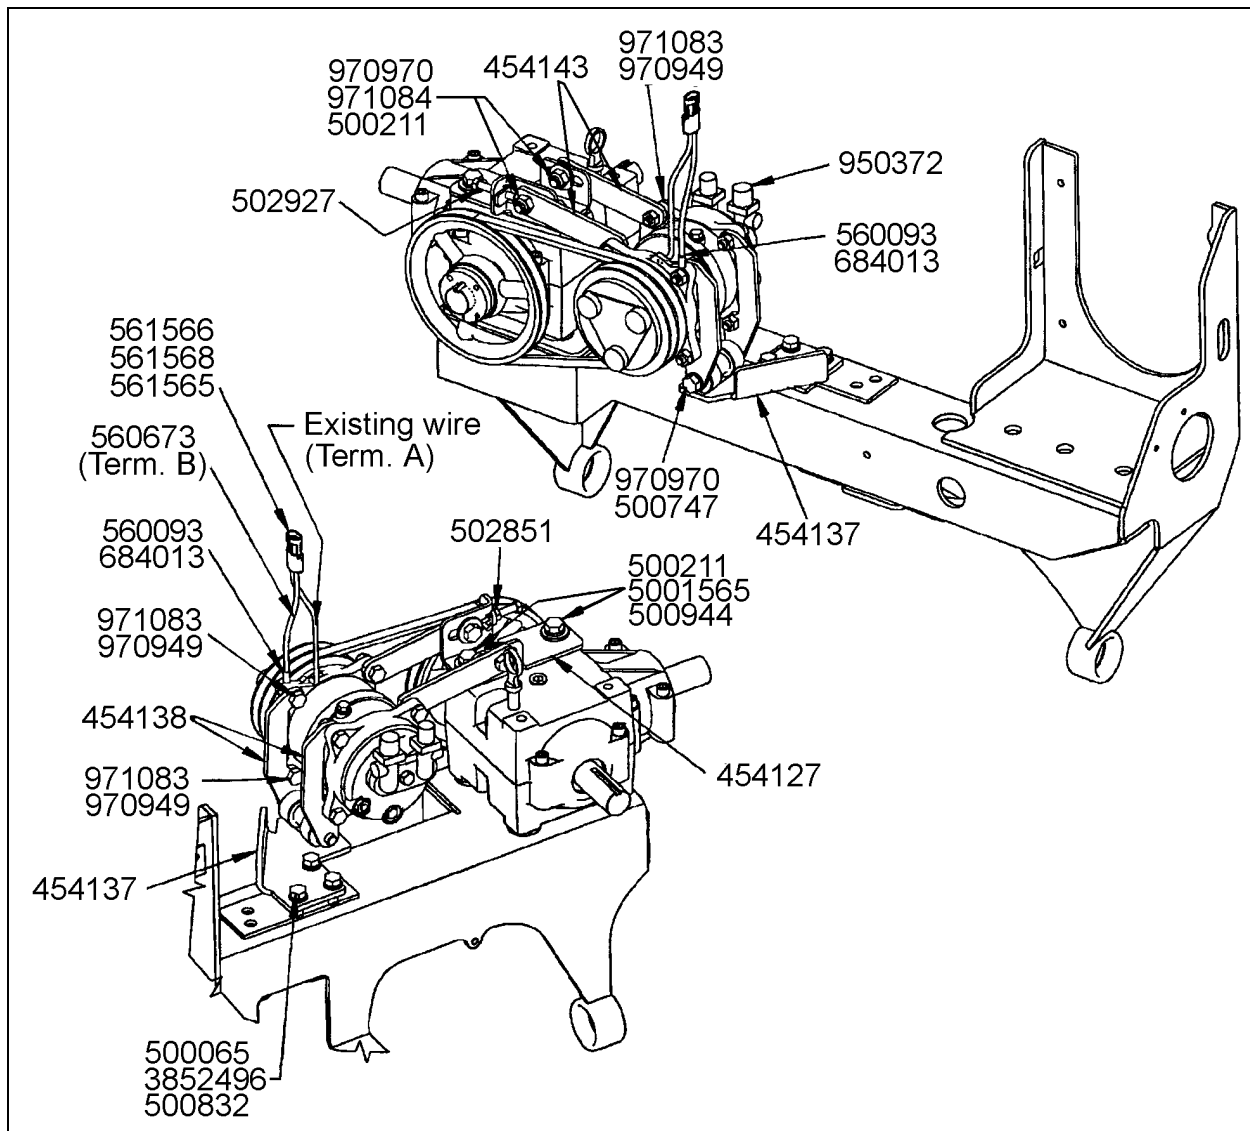

FIGURE 5 COMPRESSOR INSTALLATION
14. Install compressor electrical wires and connect to compressor mounting (Refer to figure 5).